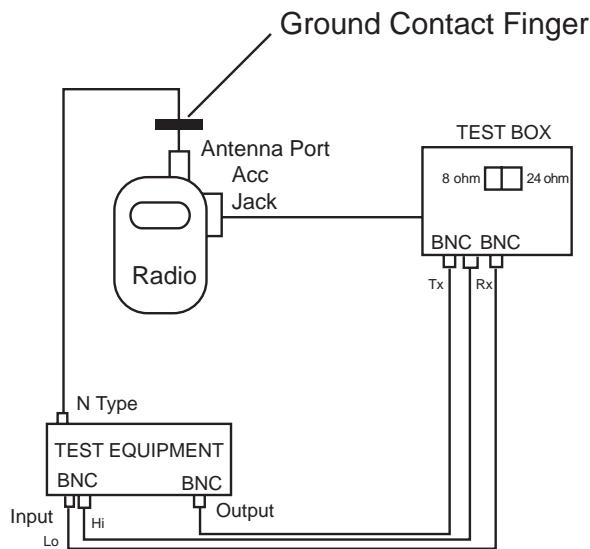

Figure 3-1 Radio Tuning Setup
2.2 Preparation Before Tuning (refer to Figure 3-1)